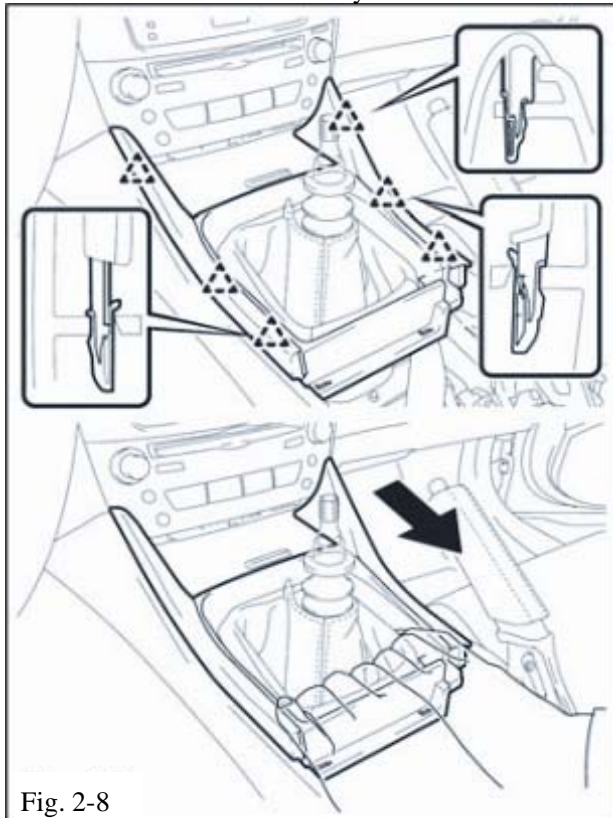

Fig. 2-8
- (4) By hand gently pull up on shift lever leather cover to release clips & remove. (Fig. 2-8)